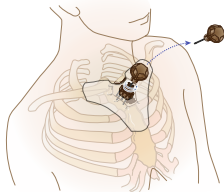

FIGURE 12
14. **Remove stylet** and place into NeedleVise® for sharps containment. (See Figure 12)